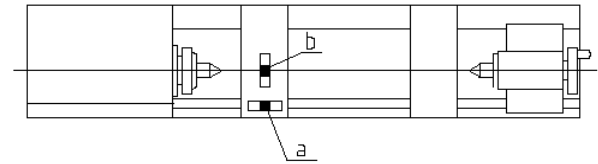

Figure 5 – Leveling
9. Use a machinist's precision level on the bed ways both front to back and side to side, as shown in Figure 5. Take the reading in one direction every 10 inches. Make sure the ways are clean and free of any debris before placing a level upon them.
10. Deviation over bed length (see Figure 5):